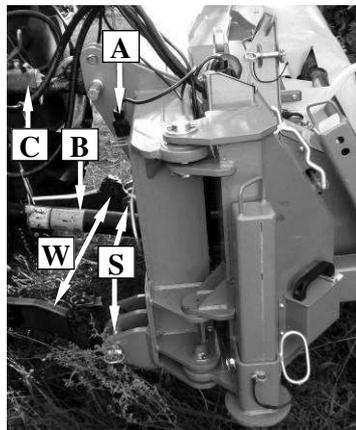

Fig. 11. Mounting mower on tractor
The mower is suitable for mounting on tractors with three-point linkage cat. II and III (**Fig. 11**).
- ❑ when setting min./max. height on tractor's lower links pay particular attention to drive shaft **B** (**Fig. 11**) connecting the mower to the tractor's PTO. If the mower is lowered or lifted too much, the PTO shaft may be damaged.
When setting min./max. height on tractor's lower links pay particular attention to drive shaft **B** (**Fig. 11**) connecting the mower to the tractor's PTO. If the mower is lowered or lifted too much, the PTO shaft may be damaged.
- ❑ using the upper regulated tie **C** (**Fig. 11**) adjust to the required cutting height. Extending the tie **C** increases cutting height and shortening it decreases it. The best recommended tilt angle of the cutterbar to the ground is from 0° to 3° (see Figure on the front page),